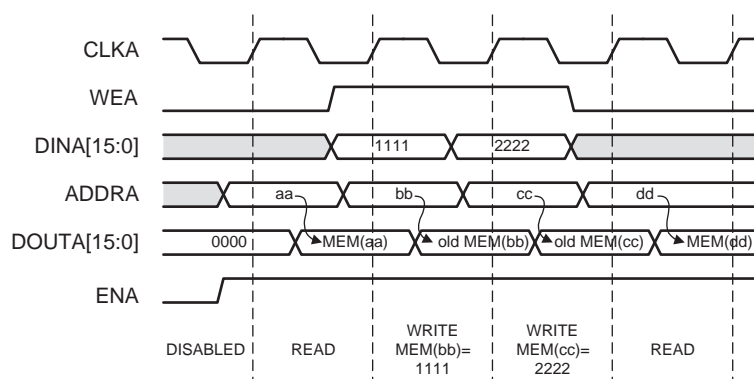

Figure 27: Read First Mode Example
- **Read First Mode:** In READ\_FIRST mode, data previously stored at the Write address appears on the data output, while the input data is being stored in memory. This Read-before-Write behavior is illustrated in Figure 27.